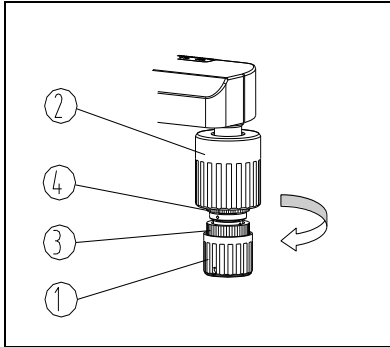

Fig. 18
When observation, move the stage by rotating the x-axis adjustment knob (1) and the y-axis adjustment knob (2) (See Fig. 18) . The moving range of x-axis and y-axis is 80x55mm.